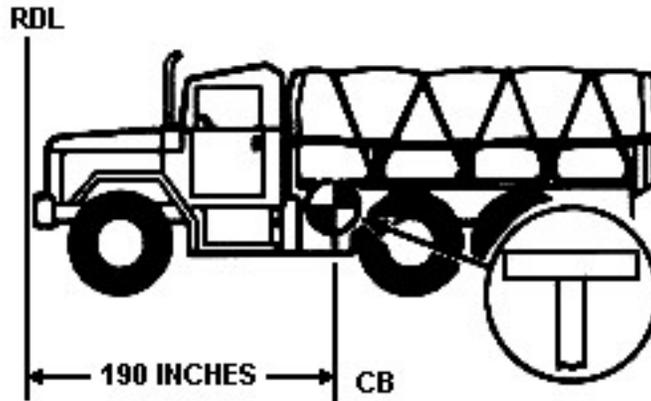

Figure 3-9
- a. Measure from RDL to CB distance that was obtained from computations (see Figure 3-9).